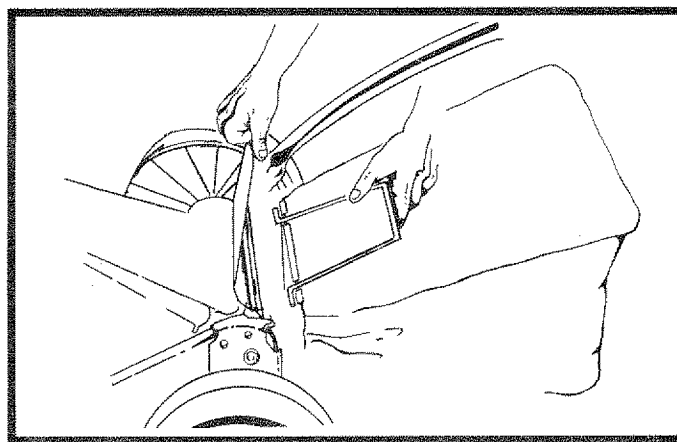

FIG. 7
- Lift up Rear Door and remove the Grass Catcher by the Handle (See Fig. 7).